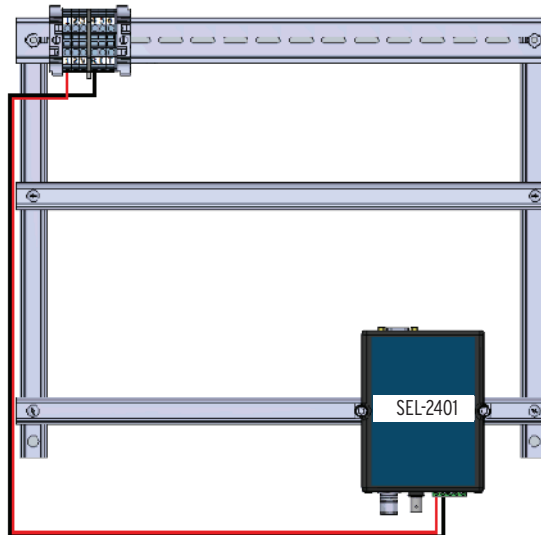

Figure 14 Connect SEL-2401 Power Wires to 12 V Terminal Block
Step 20. Terminate the red and black wires to the bottom of Terminal 1 and Terminal 4, respectively, of the 12 V terminal block. See *Figure 14*.